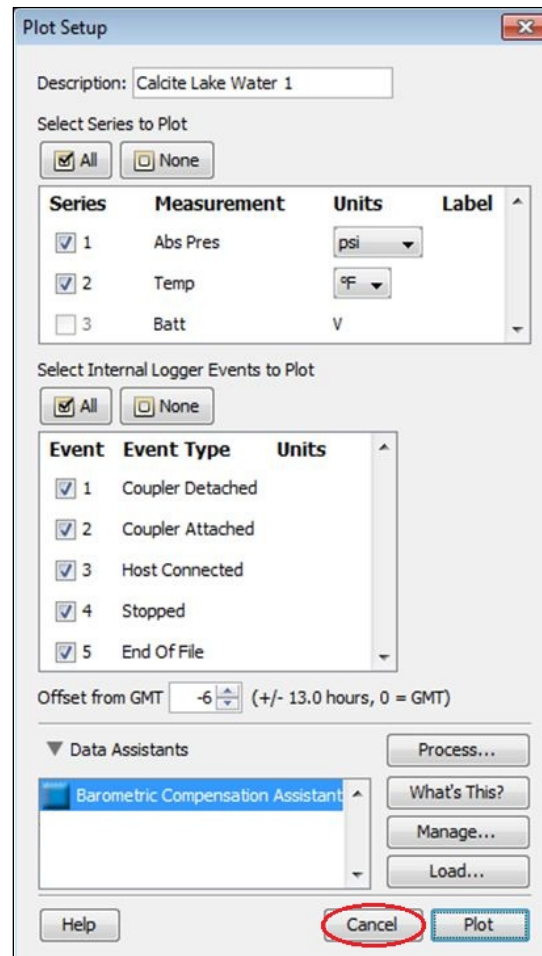

Figure B 11. Plot setup window.
9. The “Plot Setup” window will pop up (Figure B 11). Select “Cancel” to exit, or “Plot” to see your data. If you choose cancel, you should see `Readout completed successfully.` on the lower left side of the screen.